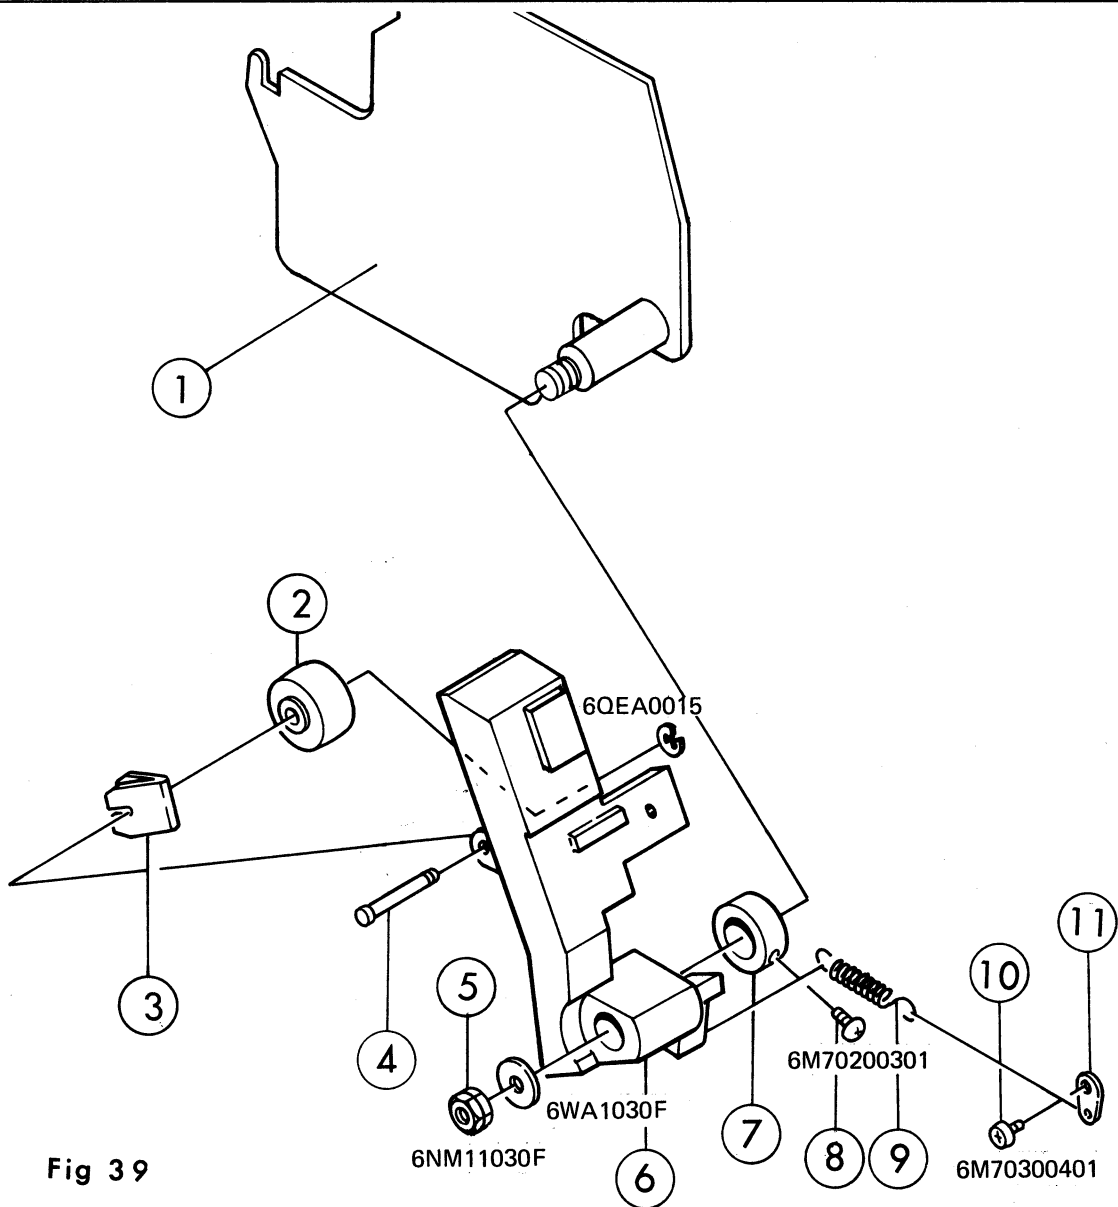

Fig 39
A. Disassembly Refer to Fig.39.
1. Remove (5) and (11), and detach (6) from (1).
2. Disassemble the rest, referring to Fig.39.